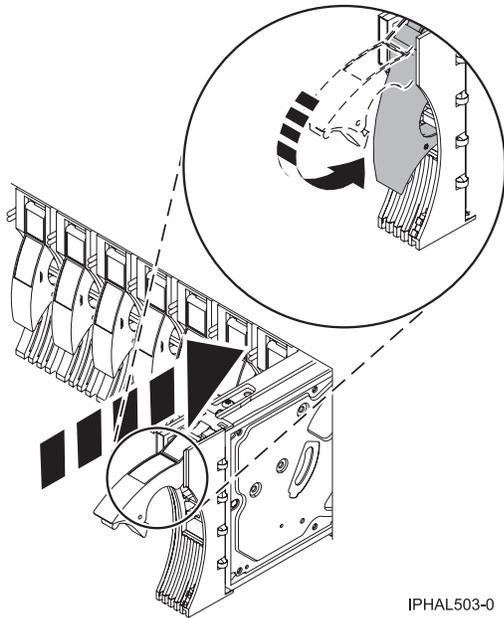

Figure 102. Installing a disk drive in a model a model or 7311-D20
- c. Push the disk drive handle in until it locks, as shown in Figure 102 on page 113.